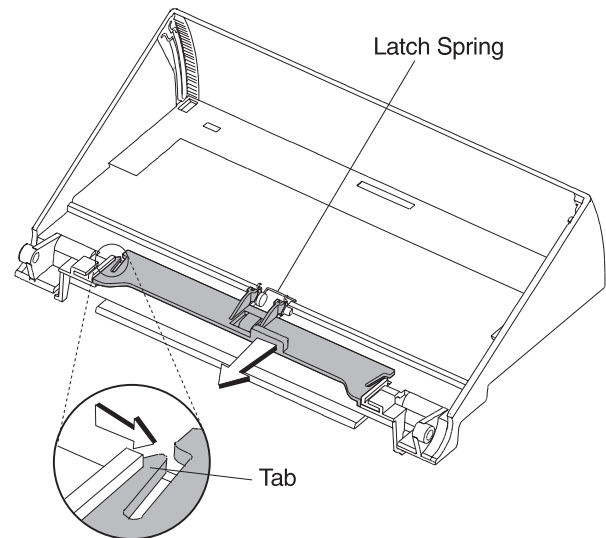

Figure 3-48. Removing the Tablet Latch - Part 2
- 4 Turn the upper wedge upside down, press the two tabs, and remove the tablet latch in the direction shown in Figure 3-48.
- 6 To exchange the tablet latch, press the two tabs and slide the tablet latch down into the cover as shown in Figure 3-48.